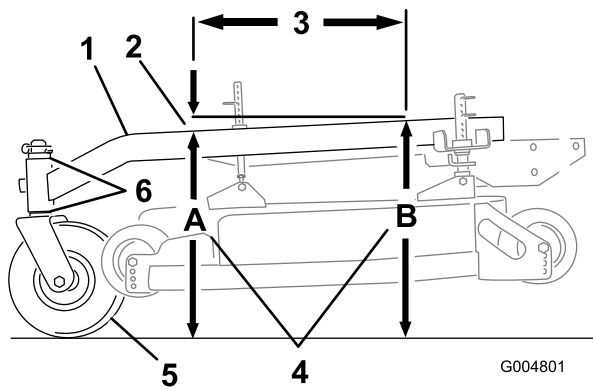

Figure 63
The carrier frame must have a pitch between 1/8 inch (3 mm) to 3/8 inch (9 mm) over the length of 24 inches (61 cm) on the carrier frame (Figure 63).
1. Measure out 24 inches (61 cm) on the carrier frame (Figure 63).
2. Measure carrier frame height at location **A** (Figure 63).
3. Measure carrier frame height at location **B** (Figure 63).
4. The height at location **A** must be a 1/4-3/8 inch (6 mm -10 mm) lower than location **B** (Figure 63).
5. If the carrier frame is not correct, move caster spacers to make it a 1/4-3/8 inch (6 -10 mm) pitch (Figure 63). Move spacers from top or bottom to make the correct pitch.